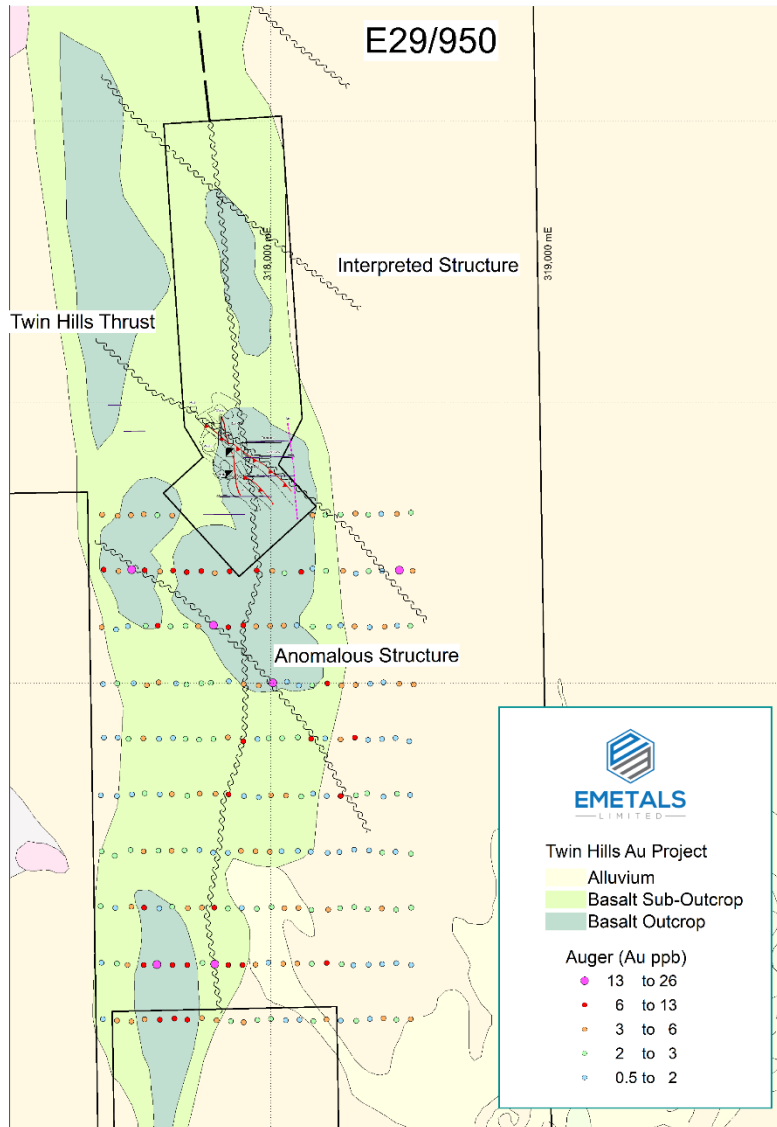

Figure 1 EMT's initial auger drilling on E29/950
- The north-south shear correlates with a subtle magnetic anomaly, and subtle offset structures may represent additional structural intersections prospective for gold mineralised shoots (please refer to Figure 1);
eMetals has undertaken a first pass auger drilling program of the priority target area between the excised Twin Hills mine and Twin Dams tenements. Please refer to Figure 1. A total of 229 auger drill holes were drilled on 200 metre spaced lines with holes spaced at 50 metres along the lines. The holes were drilled with a utility mounted auger rig and qualitatively logged on site by the contractor. Samples were submitted to a commercial laboratory for aqua regia digest for Au + 33 trace elements, a conventional assay method for low level exploration for gold. Full details on sampling methodology is available in the JORC Table 1 and 2.